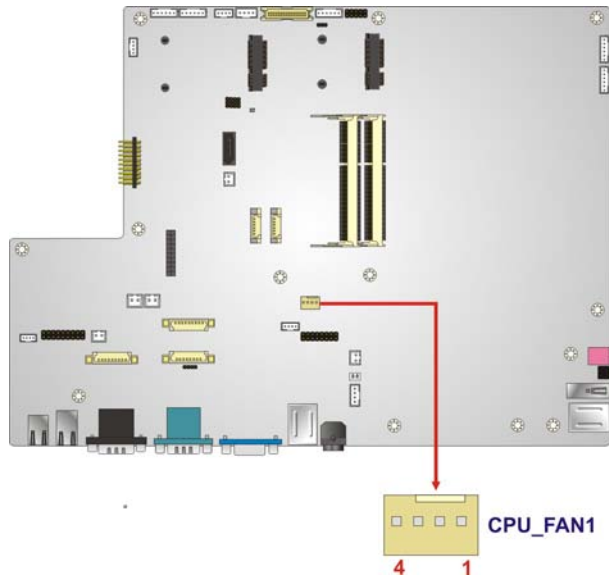

Figure 5-7: CPU Fan Connector Location
- CN Location: See **Figure 5-7**